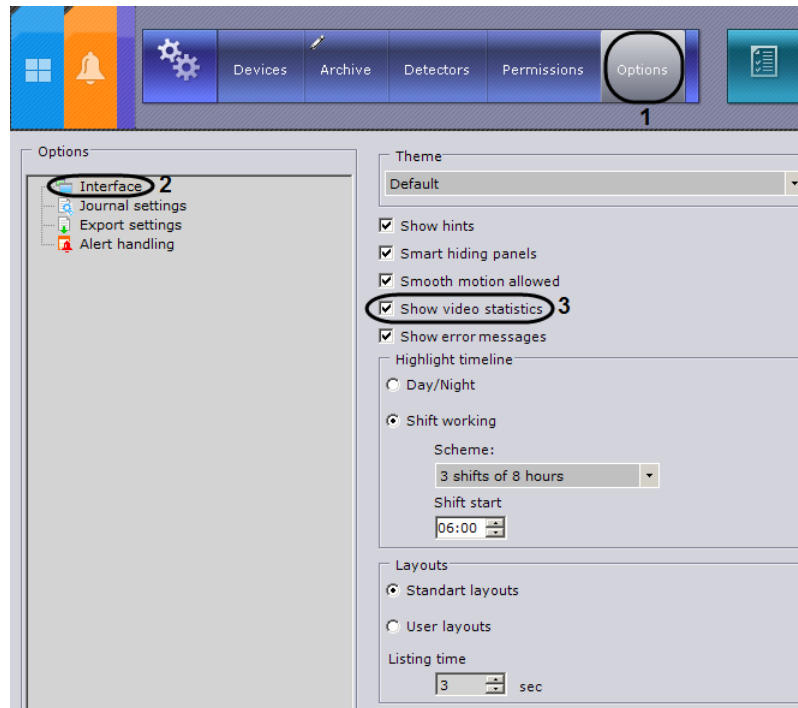

Fig. 6.8—6 Configuring display of video statistics
1. Go to **System settings**⇒**Options**⇒**Interface** (Fig. 6.8—6, 1-2).
2. Select the **Show video statistics** checkbox (see Fig. 6.8—6, 3).